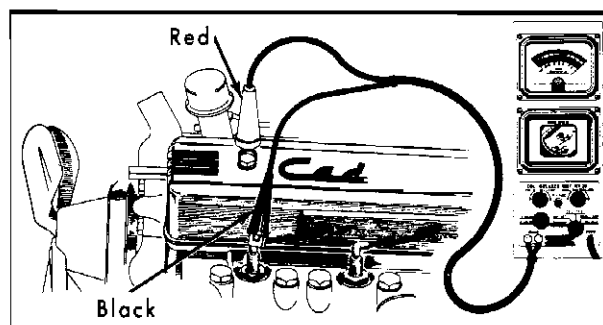

Fig. 11-20 Secondary Efficiency Test
2. Connect Tachometer leads, as shown in Fig. 11-20.